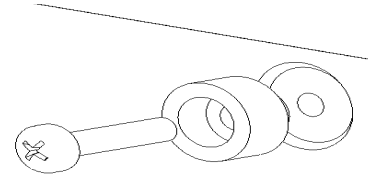

Figure 24. Remove Sony Mounting Buttons
- Using a Phillips screwdriver, remove the four mounting buttons attached to the back of your Large Flat Panel display (see Figure 24).